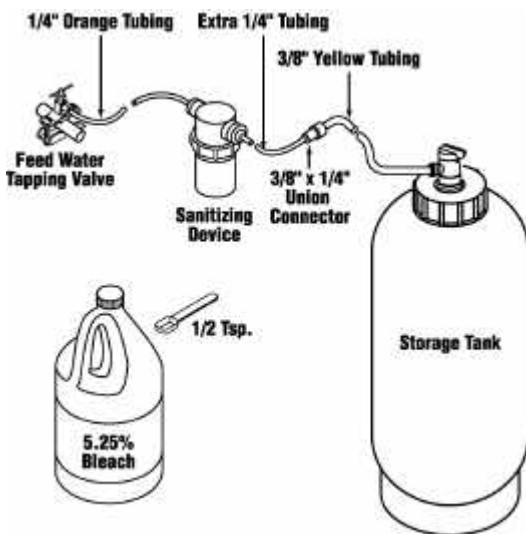

Fig. 8
- 1) Close the feedwater tapping valve. Unplug the transformer. Lift up on the faucet handle to drain the tank. Wait five (5) minutes for the purification assembly to completely depressurize.
- 2) Make sure that there is some slack in the red SFC tubing connected to the fitting at the bottom of the RO membrane cartridge. Twist the cartridge 1/4 turn clockwise so that the tubing connection is accessible. (See Fig. 8)
- 3) Make sure that the feedwater tapping valve is completely closed and disconnect the 1/4" orange feedwater tubing from the purification assembly. Connect the end of the feedwater tubing to the sanitizing device. Connect an extra length of 1/4" tubing to the other end of the sanitizing device. Using the 3/8" x 1/4" union connector, connect the 3/8" yellow tubing from the tank valve fitting to the extra piece of 1/4" tubing. (See Fig. 8)
- 5) Open the feedwater tapping valve to force water and sanitizer into the storage tank. Allow about three (3) minutes to fill a standard 2.5 gallon tank. It should feel heavy when it is full.
- 8) Shut off the faucet and allow the storage tank to fill for at least six (6) hours. Drain the storage tank again and discard the water. The appliance should be ready to use as soon as the tank refills. If any objectionable taste is noticed, then drain the storage tank again and allow it to refill.